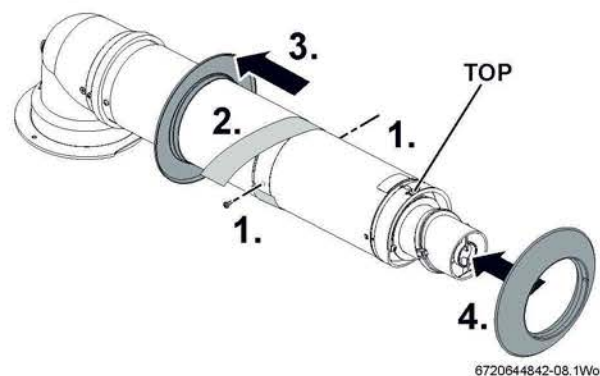

Fig. 33 Telescopic flue
1. Refer to figure 33 and set the flue length to the distance required, secure with the screws provided.